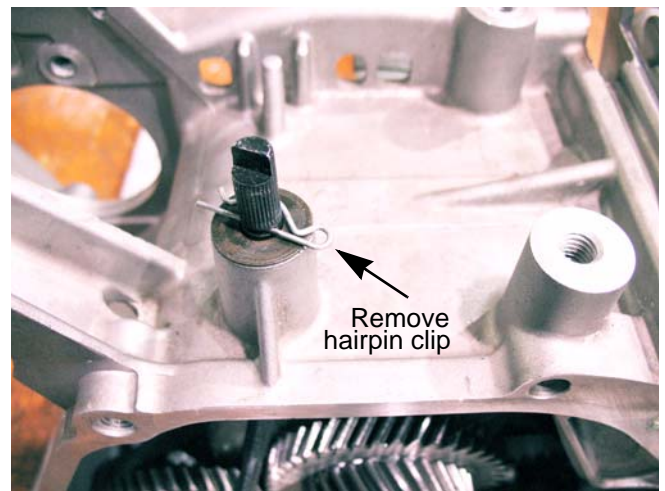

Figure 4.24
5. Remove the hairpin clip from the governor shaft. See Figure 4.24.